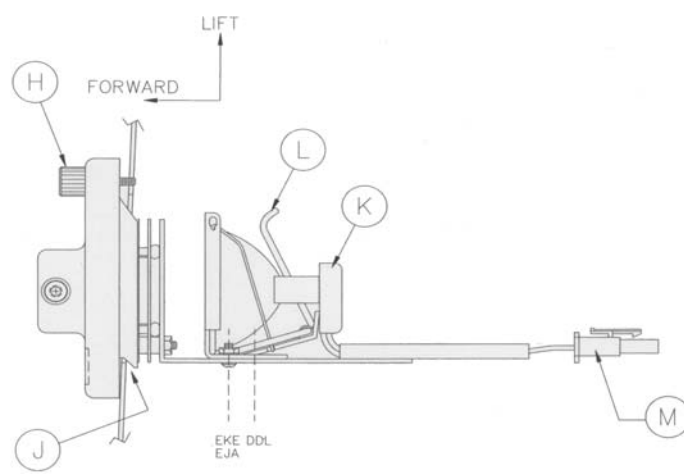

Figure 9.12 Light source module
3. Press the ON (1)/OFF(0) switch to the OFF(0) position on the light source module.
8. Push back on the lampholder release lever to raise the lamp (L) (Figure 9.12).
9. Gently unplug the ceramic lamp socket (K).